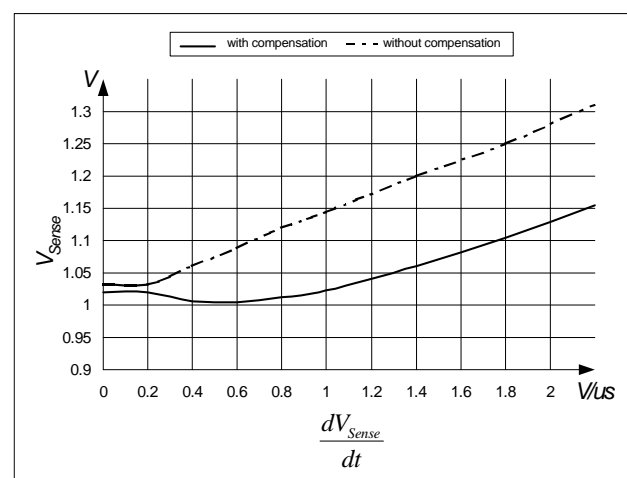

Figure 19 Overcurrent Shutdown
E.g.  $I_{peak} = 0.5\text{A}$  with  $R_{Sense} = 2$ . Without propagation delay compensation the current sense threshold is set to a static voltage level  $V_{csth} = 1\text{V}$ . A current ramp of  $dI/dt = 0.4\text{A}/\mu\text{s}$ , that means  $dV_{Sense}/dt = 0.8\text{V}/\mu\text{s}$ , and a propagation delay time of i.e.  $t_{Propagation Delay} = 180\text{ns}$  leads then to a  $I_{peak}$  overshoot of 14.4%. By means of propagation delay compensation the overshoot is only about 2% (see Figure 19).